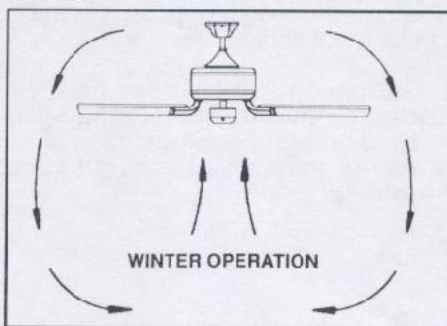

FIG. 19
**Cool weather** - (Counter Clockwise) An upward airflow moves warm air off the ceiling area as shown in (Fig. 19). This allows you to set your heating unit on a cooler setting without affecting your comfort.